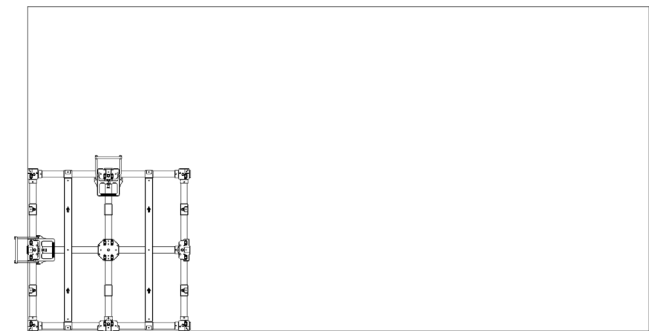

Figure 2.1.1
Step 1: Adjust all the foot cups on the floor tile bracket to the minimum stroke position, and then place it in the installation area. Please note that the direction arrow on the floor tile bracket must be consistent with the direction of the display screen to be installed (Figure 2.1.1).